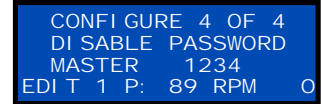

Figure 7.4 Password Screen
- 2) Press [CONFIG], followed by the [NEXT] key three times. This switches you to the Configuration 4 Screen shown in figure 7.4. The Disable/Enable Password field will be blinking.